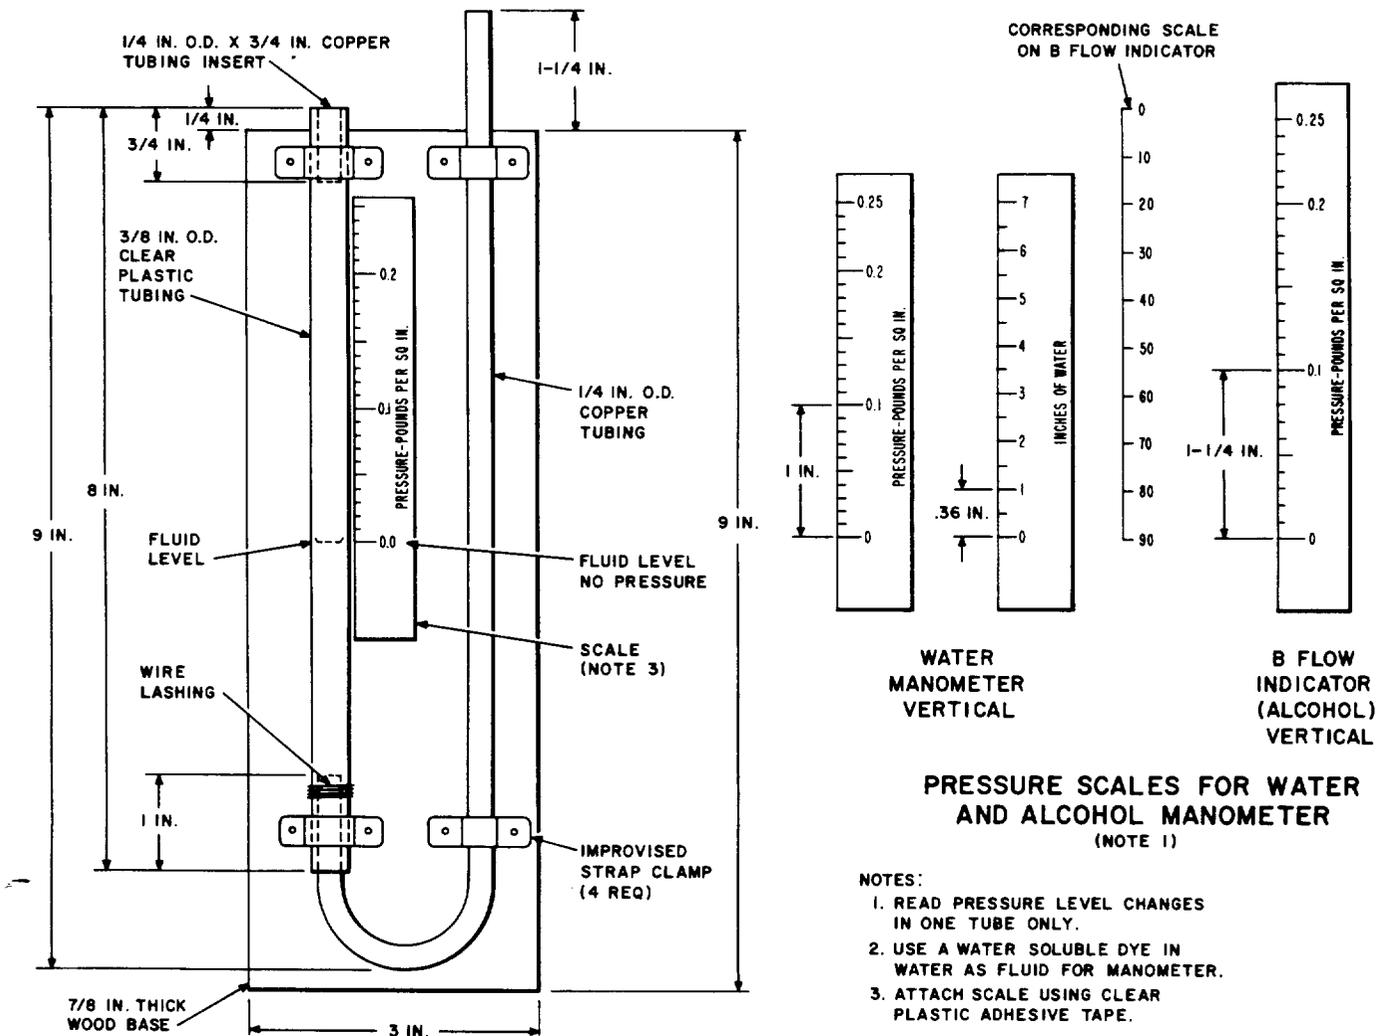

Fig. 5—Water or Alcohol Manometer
If the method described in 3.04 is used, the flowrator (or gas meter) will not be required. The assembly and operation of the gas cylinder, both regulators, and hose are covered in Section 081-601-101 entitled Pressure-Testing Tools—B Gas Regulator. Connect a pressure-testing hose between the outlet of the B gas regulator and the inlet of the flowrator (or gas meter) and a second pressure-testing hose between the outlet of the flowrator (or gas meter) and the gas admission valve of the test plate. Connect a gas pressure-measuring instrument to the other valve in the test plate. This instrument may be either a B flow indicator or a water manometer in accordance with Fig. 5.
- (a) Use a B flow indicator, when available, in a vertical position, following general instructions on leveling and maintenance in Section 081-603-100 entitled B Flow Indicator. Add fluid to the tubes, if required, until the level in both tubes falls between 80 and 90 on the regular manometer scale. Prepare a scale on 20 lines-per-inch graph paper in accordance with Fig. 5, and mount it on the instrument scale alongside the left-hand tube with the zero reading on the scale at fluid level, using a clear plastic adhesive tape. Before gas flow is started, close the center valve and
- (b) If the B flow indicator is not available, construct locally a water manometer as shown in Fig. 5.